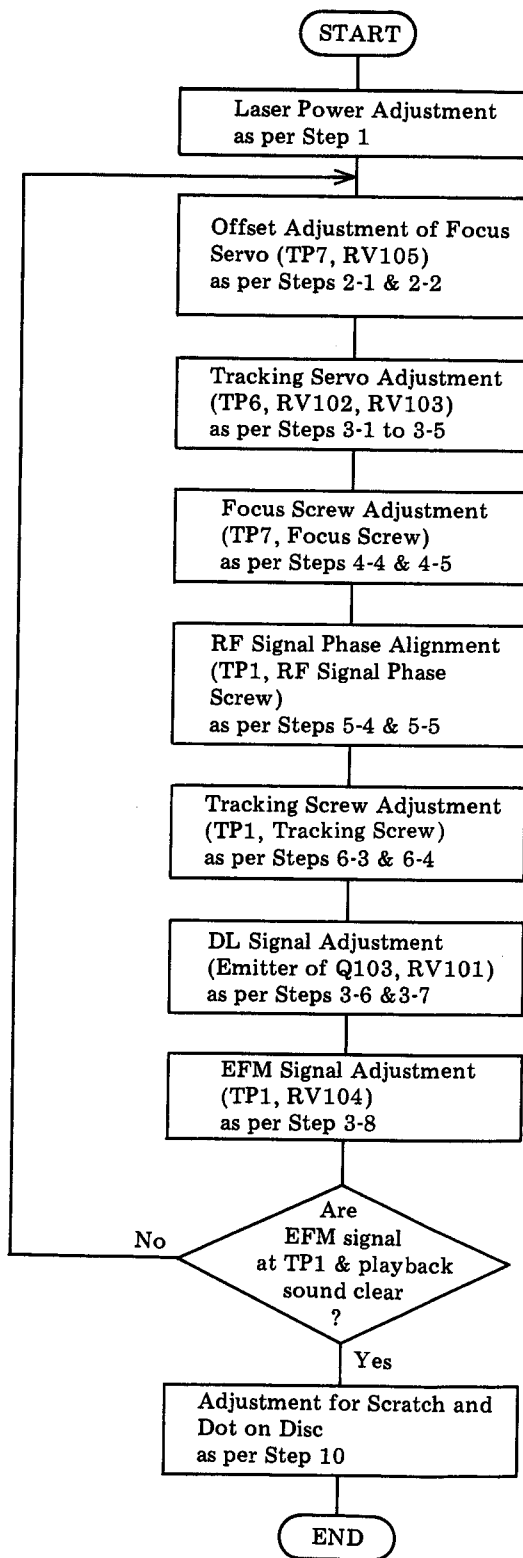

Fig. 2.7
Upon completion of replacement of the Pickup, perform rough adjustments following the flow chart shown in Fig. 2.7. Then proceed to the final stage adjustment, i.e., "Adjustment Instructions" in item 5.2 except step 1 "Laser Power Adjustment" (step 1 is already done in the rough adjustment).